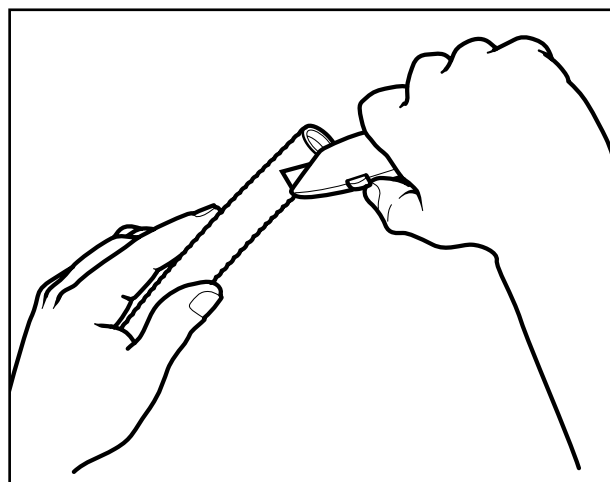

Figure: 4-3
2. **STRIP JACKET:** Using a utility knife, strip back the jacket. See Table: 4-3 for maximum jacket strip length. Care should be taken to minimize the amount of jacket material removed. Figure: 4-3, 4-4